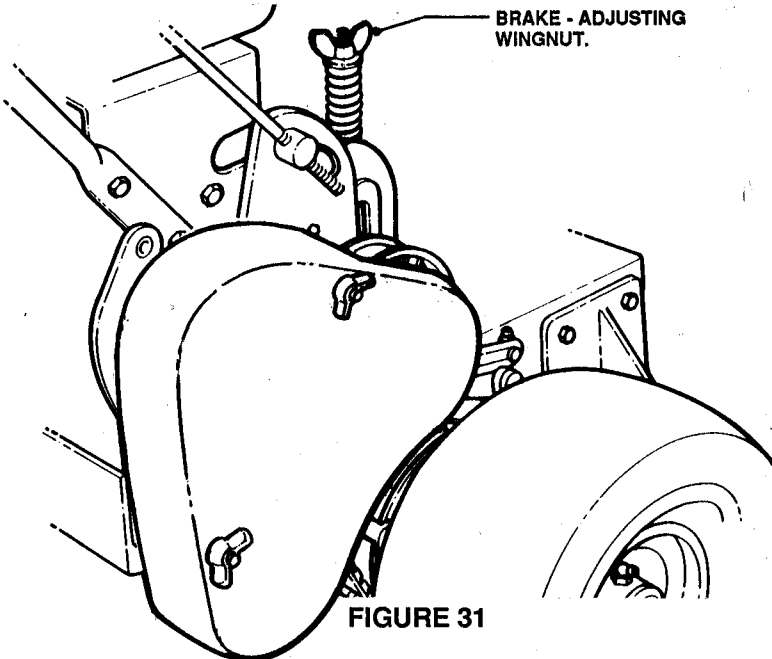

FIGURE 31
2. While remaining behind mower, reach down and turn brake-adjusting wingnut clockwise slightly until desired turning response is achieved when pulling TRACTION LEVERS to their brake position. (Clockwise turning tightens brake band, counterclockwise loosens.) See Figure 31.